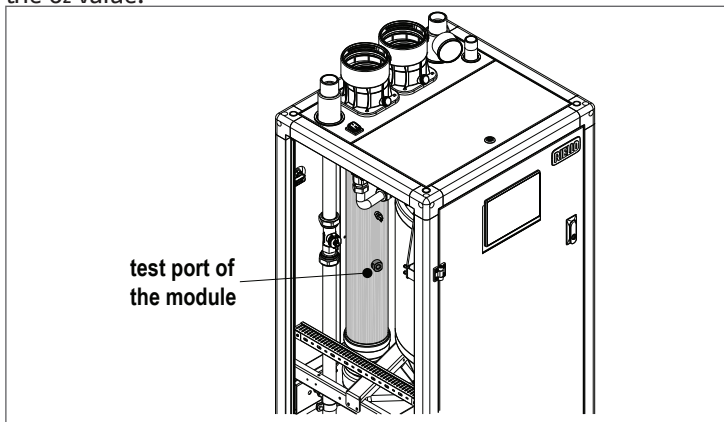

Fig. 20 Test Port for Combustion Analysis (available on each individual heat exchanger)
- Insert a combustion analyzer probe into the test port as shown in Fig. 20;